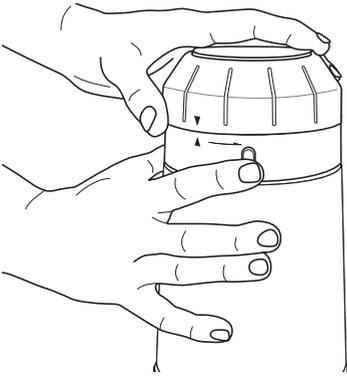

Figure 22
3. Press and hold down the 'UNLOCK' button at the rear of the motor base and with the other hand turn the grind adjustment collar anti-clockwise until the graphic arrow on the collar is aligned with the arrow on the motor base, see figure 22.